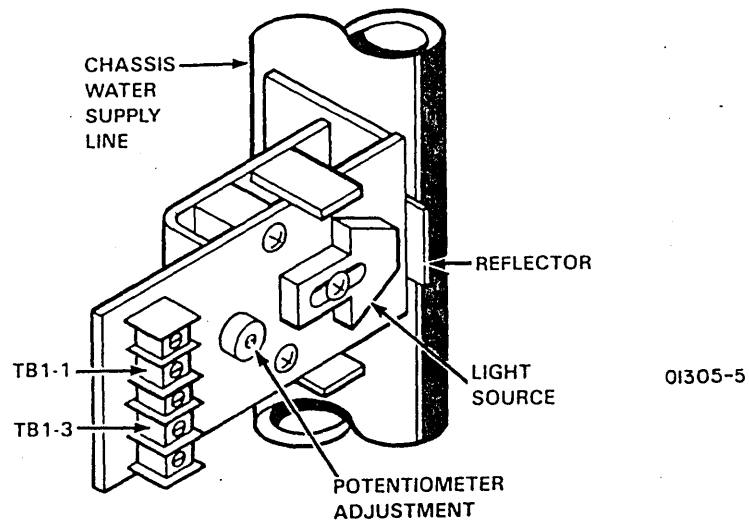

Figure 4-27. IOU Low-Temperature Sensor Assembly
- ___ b. Place meter negative (-) lead on low-temperature sensor TB1-1 and positive lead (+) on TB1-3 (figure 4-27).